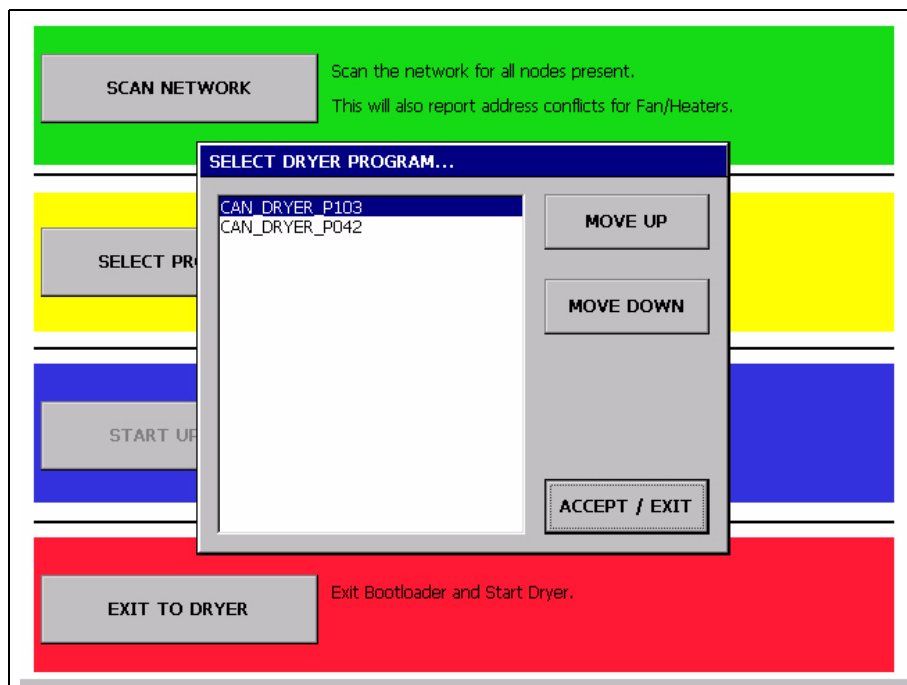

Figure 4G
7. Choose the “Select Program” button from the “Boot Loader” screen. (See Figure 4G.)